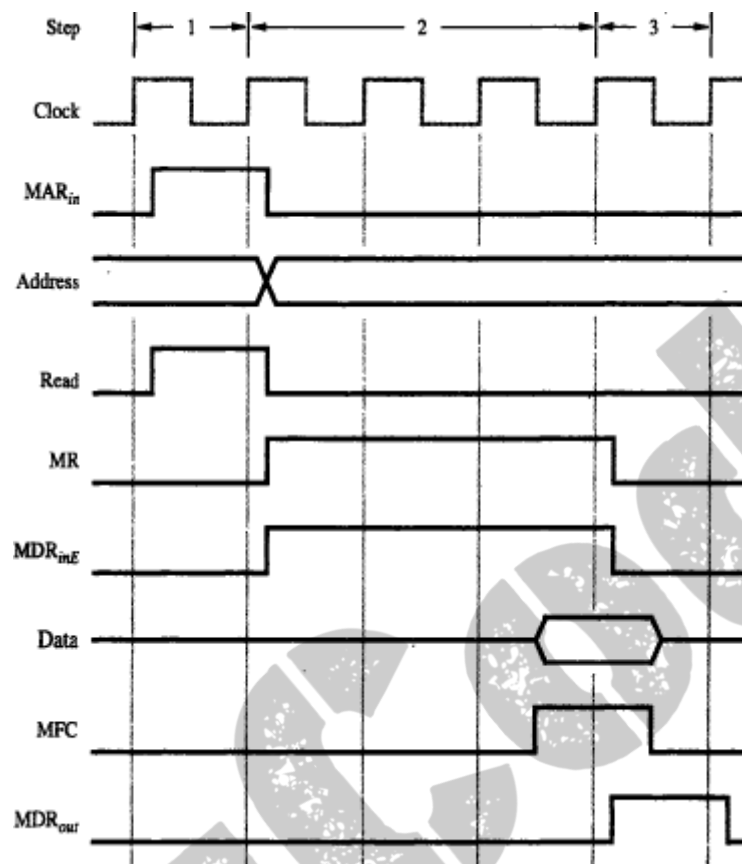

Figure 7.5 Timing of a memory Read operation.
- Consider the instruction Move (R1),R2. The sequence of steps is (Figure 7.5):